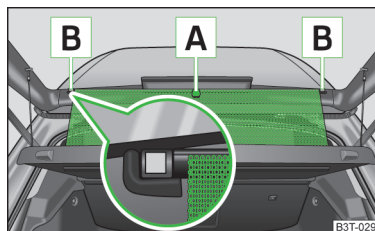

Fig. 60
- » Pull the sun screen on the handle **A** » Fig. 60 and hang it in the magnetic brackets **B**.